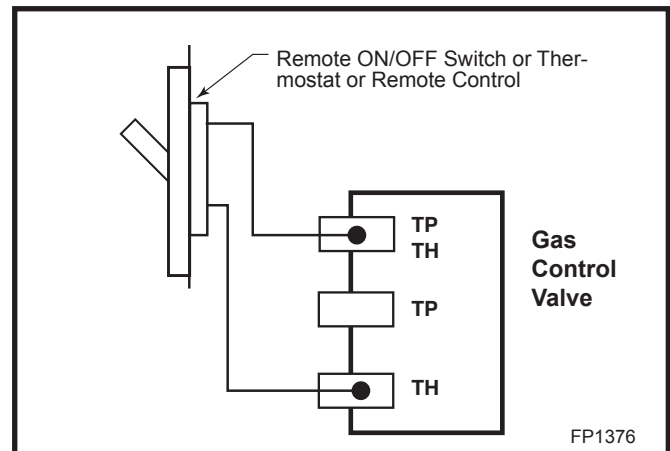

Fig. 7 Remote switch wiring diagram.
3. Connect the other ends of the wire to the gas control valve. (Fig. 7)